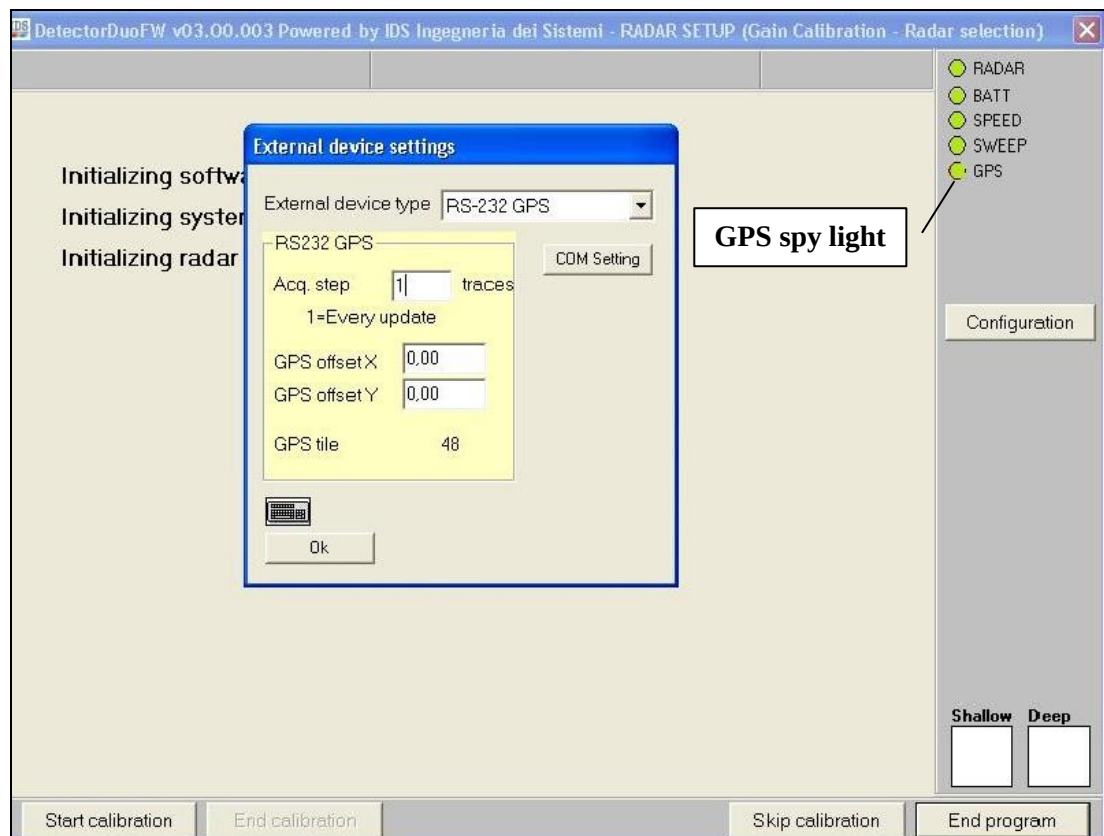

Fig. 6.6 – GPS spy
Step 7 Correct functioning of the GPS and its communication with the DetecorDuoFW system is indicated by the GPS spy light in the acquisition window; when the light is green, the GPS is correctly connected and functioning; when the GPS is red, either the connection between the GPS and DetecorDuoFW systems has not been correctly made or the GPS is switched off (Fig. 6.6).